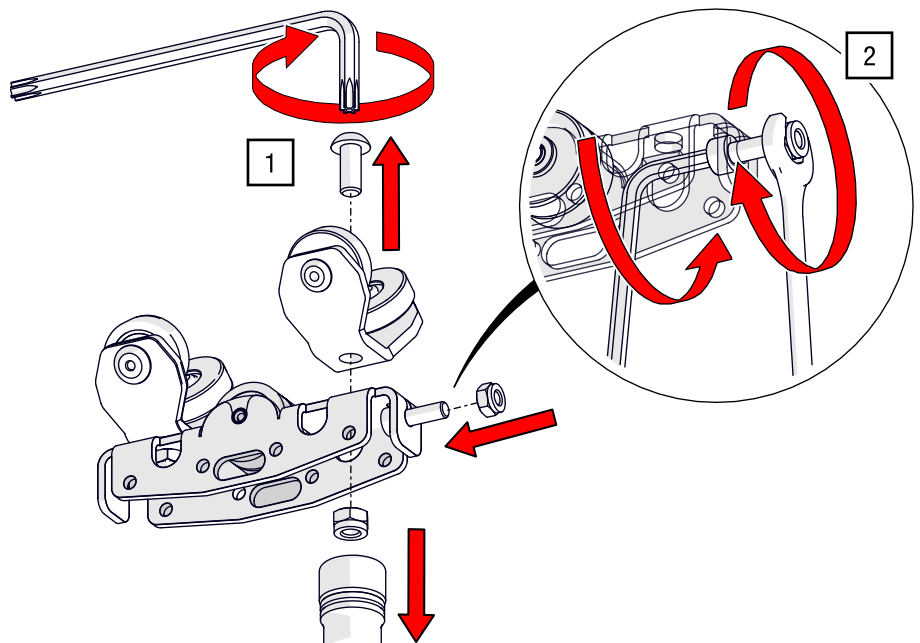

Fig. 60: OFFICE master runner overlap arm – Mounting the screw for magnetic coupling
1. On the master runner, loosen the screw connection of the front wheel mount using a hex socket wrench AF 8 and a TORX®-key T25 (see Fig. 60).
2. Remove the rubber buffer, tighten the screw of the magnet catch plate and the hexagon nut using an open-end wrench AF 4 and a hex key AF 3 to 3 Nm (see Fig. 60).